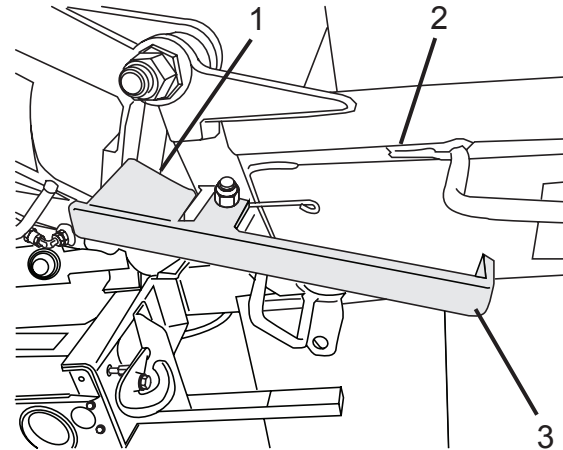

Figure 117
As the chute is unfolded, the fold-over chute stop tab (Figure 117, Item 1) will make contact with the main chute, preventing the chute from slamming down against the main chute.
1. Support the fold-over chute (Figure 117, Item 2).
2. Depress the handle (Figure 117, Item 3) until the stop tab (Figure 117, Item 1) clears the main chute, and lower the fold-over chute.